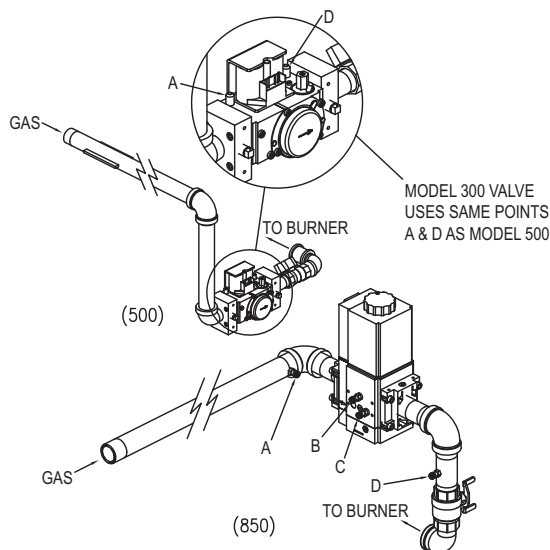

Fig. 35: Gas Pressure Measurement Locations
2. Attach (1) 12" scale manometer to an upstream bleedle valve on the gas supply pipe to the boiler (Measure point "A" in Fig. 35).
3. Attach (1) 12" scale manometer to the manifold pressure tap located downstream of the valve (Measure point "D" in Fig. 35).
4. Attach (1) 12" scale manometer to the tapping on the filter box. Pull black cap from air pressure switch tee and connect the manometer. NOTE: Retain caps for reinstallation later.
1. Check manifold gas pressure at the manifold pressure tap (connection “D” in Fig. 35). This pressure should read per the values in Table S for natural and propane gas.